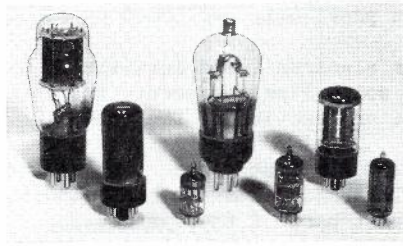

FIG. 50. TYPICAL ELECTRON TUBES.
13.3 SHAPES. Fig. 50 shows a few typical electron tubes.